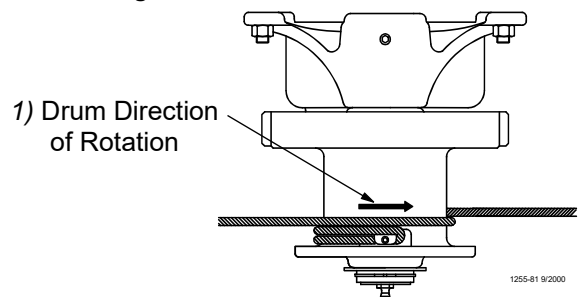

Figure 9. Power Winch Drum Rotation
- Turn the winch drum one full revolution. Guide the cable against the flange at the bottom of the winch drum. The cable must not wrap over itself on the drum, but should be wrapped as close as possible to each previous wrap. See **Figure 9.**